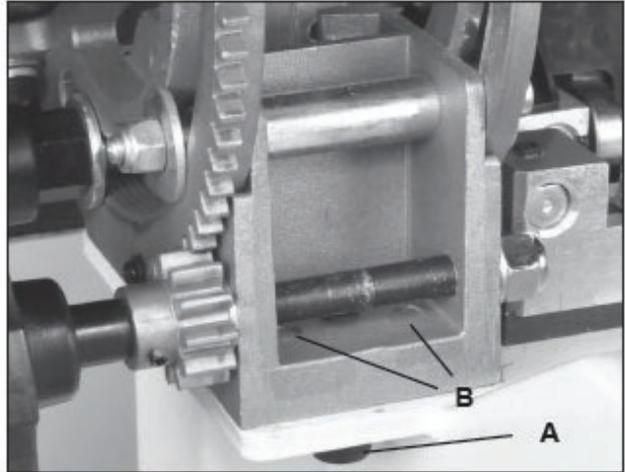

FIGURE 13
1. On the lower Trunnion Support, slightly loosen the two Hex Bolts that hold the support to the bandsaw frame. **Fig. 13, A.**
3. Using the 3mm hex wrench, turn the lower trunnion's micro adjusting hex screws to adjust the table position. **Fig. 13, B.**